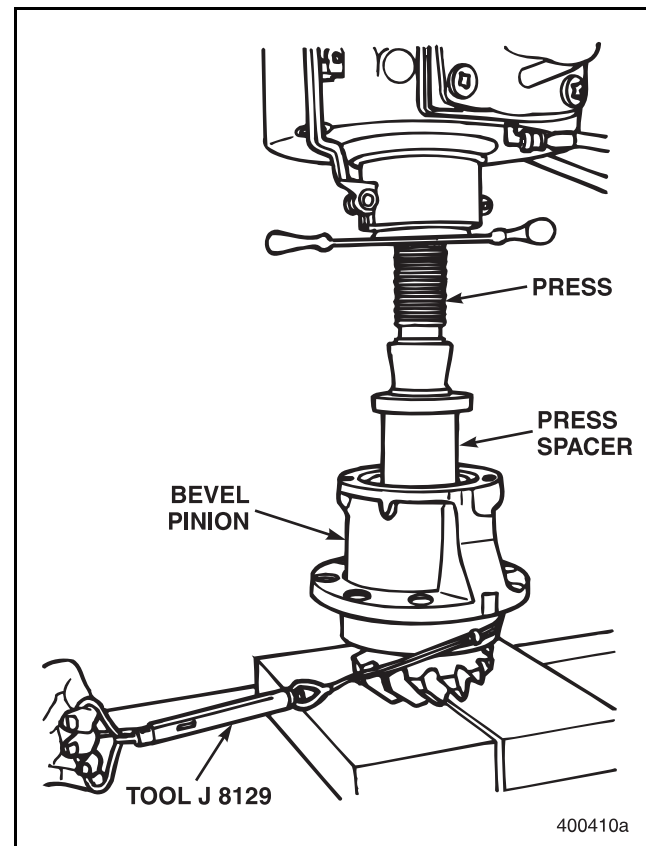

Figure 200 — Checking the Bearing Preload on the Bevel Pinion
8. Wrap a cord around the bevel pinion housing as shown in Figure 200. Then attach scale J 8129, or equivalent, to the cord. Pull on the scale slowly and evenly until the housing rotates.